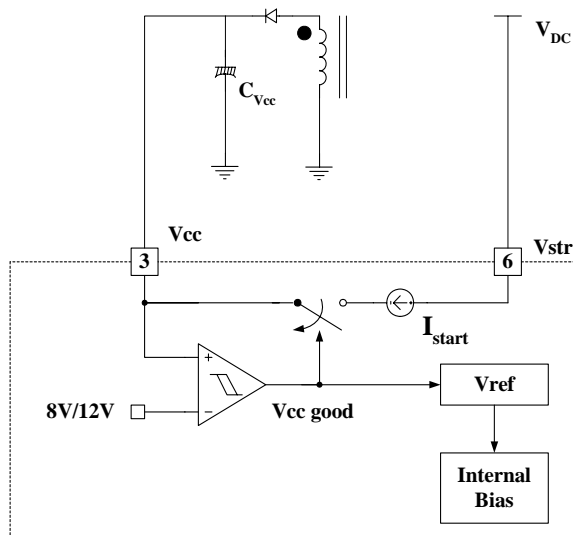

Figure 4. Internal startup circuit
**1. Startup** : In previous generations of Fairchild Power Switches (FPSTM) the Vcc pin had an external start-up resistor to the DC input voltage line. In this generation the startup resistor is replaced by an internal high voltage current source. At startup, an internal high voltage current source supplies the internal bias and charges the external capacitor (CVcc) that is connected to the Vcc pin as illustrated in Figure 4. When Vcc reaches 12V, the FSDM0565RB begins switching and the internal high voltage current source is disabled. Then, the FSDM0565RB continues its normal switching operation and the power is supplied from the auxiliary transformer winding unless Vcc goes below the stop voltage of 8V.